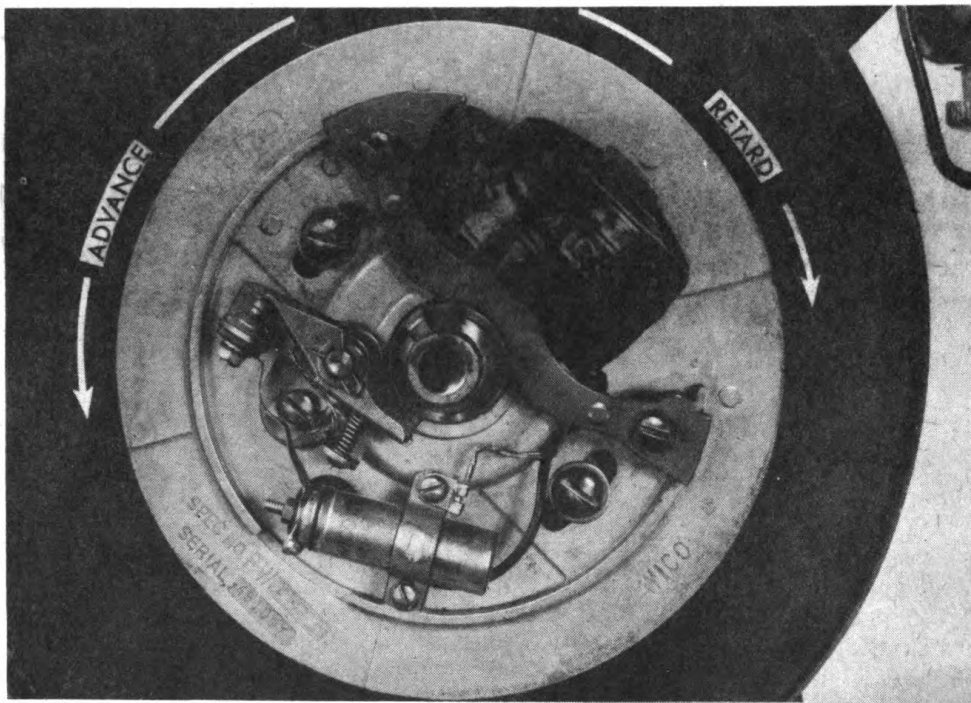
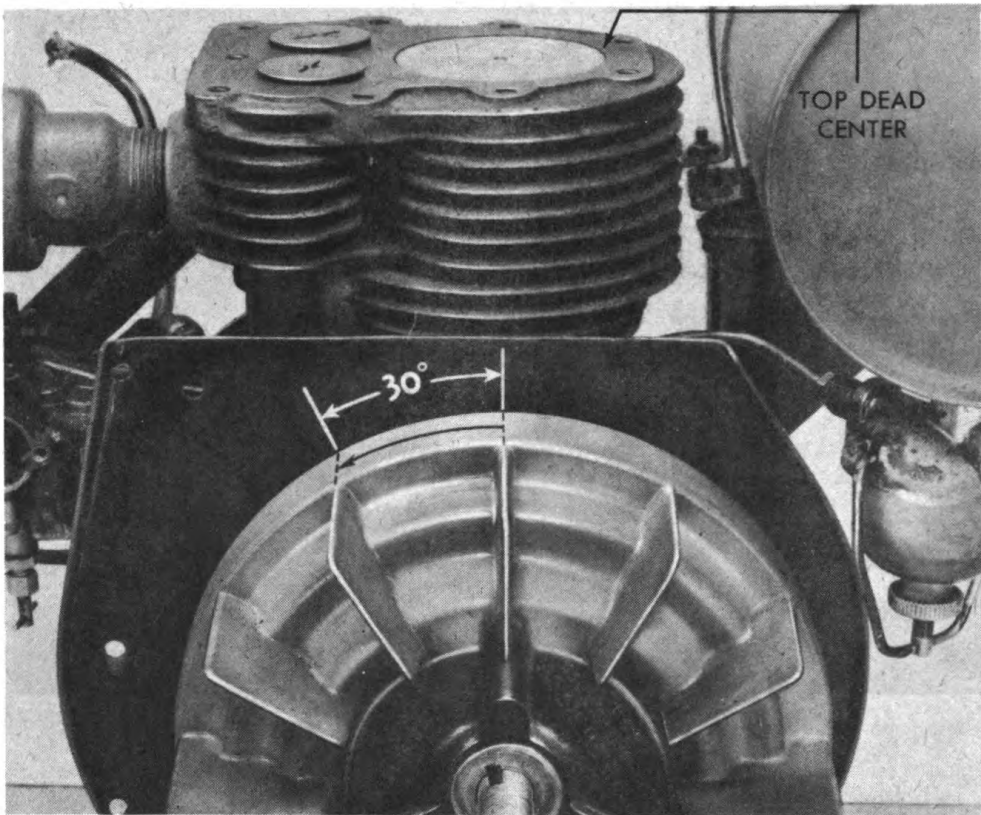
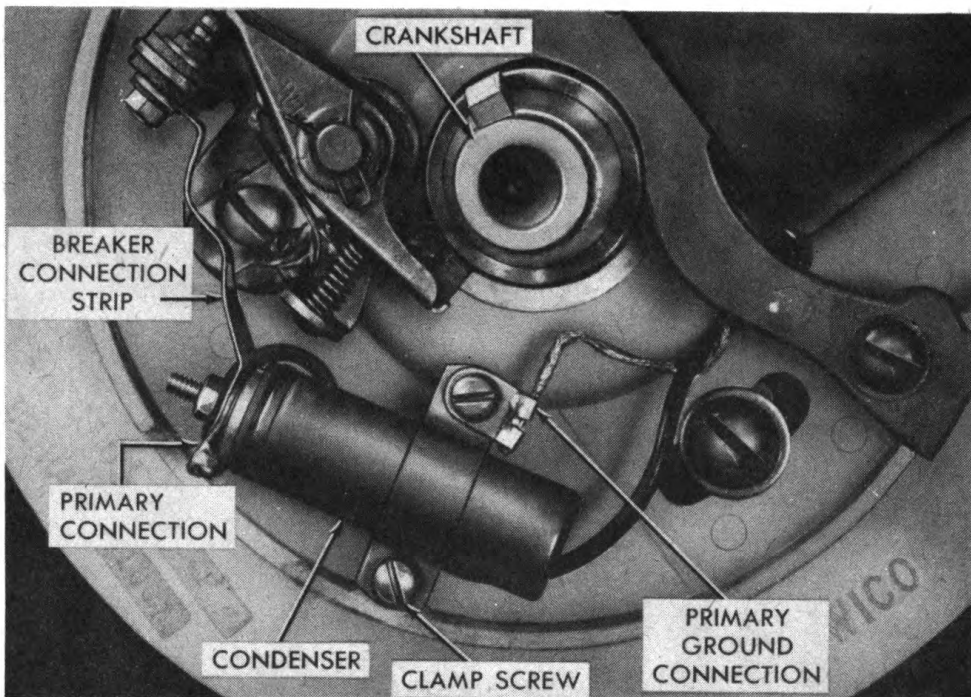

Figure 26—Timing Adjustment
Figure 27—Flywheel Measurements for Setting Timing
Figure 28—Condenser and Attaching Parts
d. Timing Adjustment. (See figure 26.)
- (1) Remove flywheel retaining nut, lock washer, and starter pulley; then remove flywheel.
- (2) Loosen two $\frac{1}{4}$ inch screws which hold the stator plate to the engine.
- (3) To retard timing, turn stator plate clockwise.
- (4) To advance timing, turn stator plate counterclockwise.
- (5) Tighten two $\frac{1}{4}$ inch screws securely, to lock plate in position.
- (6) Install starter pulley, lock washer, and flywheel retaining nut securely.
- (5) Mark location of any flywheel air fin on shroud (see figure 27); then back the flywheel up, one fin (30 degrees) counterclockwise.
- (6) Remove flywheel.
- (7) Loosen two screws, which hold stator plate to engine, and turn stator plate until the points just start to open. (See figure 26.)
- (8) Tighten two stator plate holding screws securely.
f. Condenser Removal. (See figure 28.)
- (1) Remove flywheel retaining nut, lock washer, starter pulley, and flywheel.
- (2) Disconnect breaker connection strip and primary connections from live end of condenser.
- (3) Remove two clamp screws; then lift off condenser and clamp assembly.
g. Condenser Installation. (See figure 28.)
- (1) Position condenser assembly on stator plate and install outer clamp screw.
- (2) Insert remaining clamp screw through ground connection and inner side of clamp and secure to stator plate.
- (3) Install primary connection and breaker connection strip on live end of condenser.
- (4) Install flywheel, starter pulley, lock washer, and flywheel retaining nut on crankshaft.